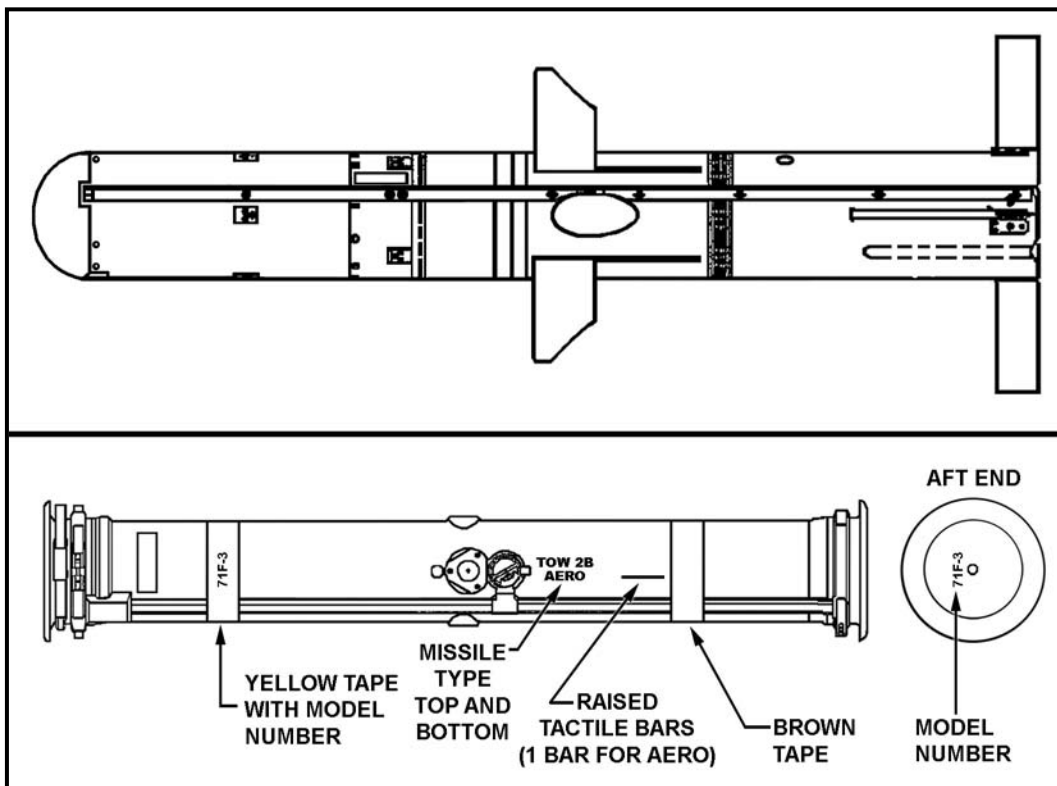

Figure 1-22. TOW 2B AERO missile and identification.
f. **TOW 2B AERO (BGM-71F-3)** (Figure 1-22, page 1-26). This version of the TOW 2B missile has an effective range of 4,000 meters, compared to the 3,750-meter range of previous TOW missiles. This longer range allows the TOW crew to engage a target well beyond the range of the weapons of the target vehicle. A crush switch is located behind the aerodynamic nose of the TOW 2B AERO, which enhances the range. A tactile bar is located aft of the umbilical connector, which makes it easier to identify this missile in a low-light environment. (The target detection and warhead description are the same as for the TOW 2B). The TOW 2B AERO is not available with a practice warhead.